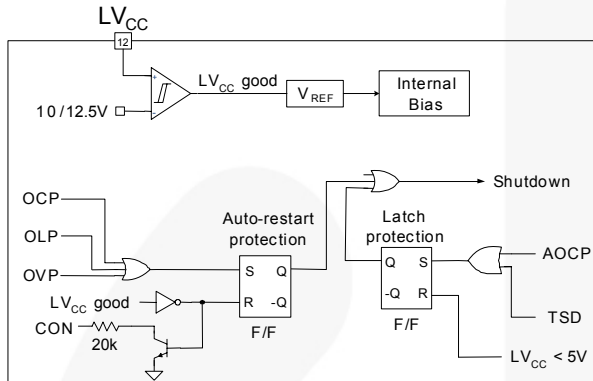

**Figure 23. Remote On / Off Circuit**
**Remote On / Off:** When an auxiliary power supply is used for standby, the main power stage using FAN7621B can be shut down by pulling down the control pin voltage, as shown in Figure 23. R1 and C1 are used to ensure soft-start when switching resumes.